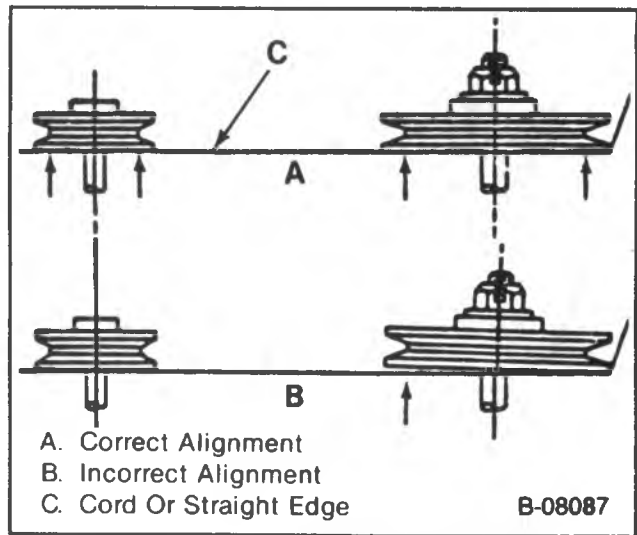

Figure 18 — Checking the Pulley Alignment
1. Place a straightedge or position a cord across the two pulleys so they touch at all points (figure 18).